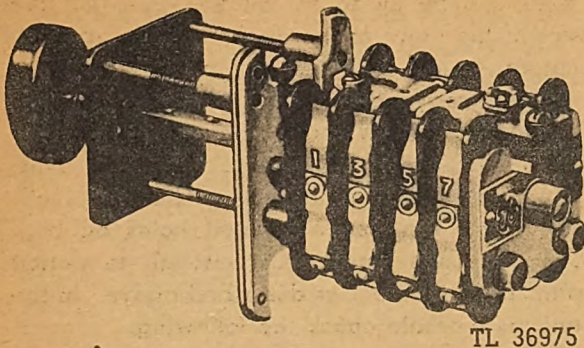

Fig. 323. Instrument Switch
*h. Phase Switch.* The ammeter and voltmeter switches are provided in order to enable the operator to read the load in any one of the three phases. They are rotary switches operated by cams. Figure 323 shows that the moving contacts are marked with odd numbers on the left and even numbers on the right hand side of the switch, back view, starting with the stage next to the panel.